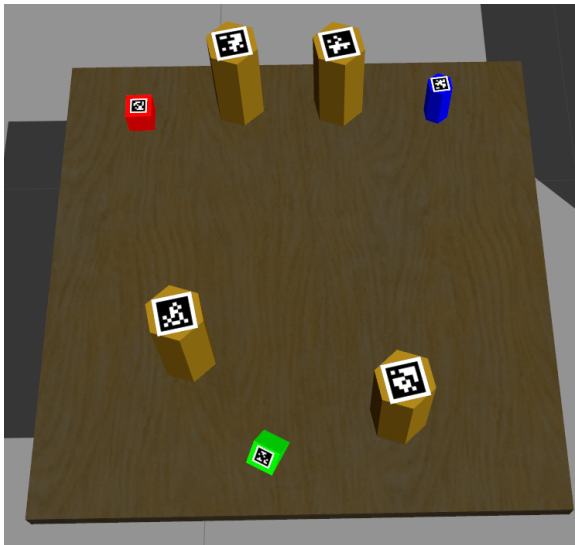
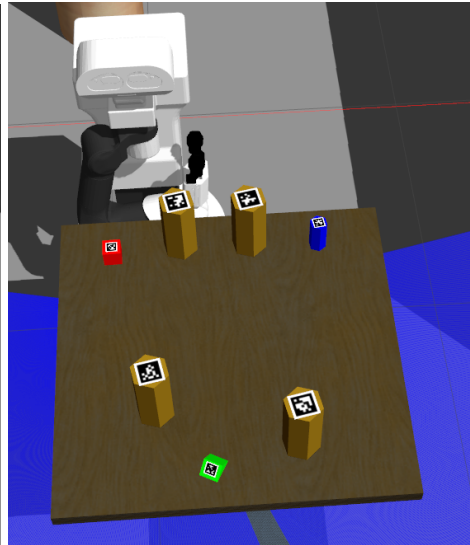
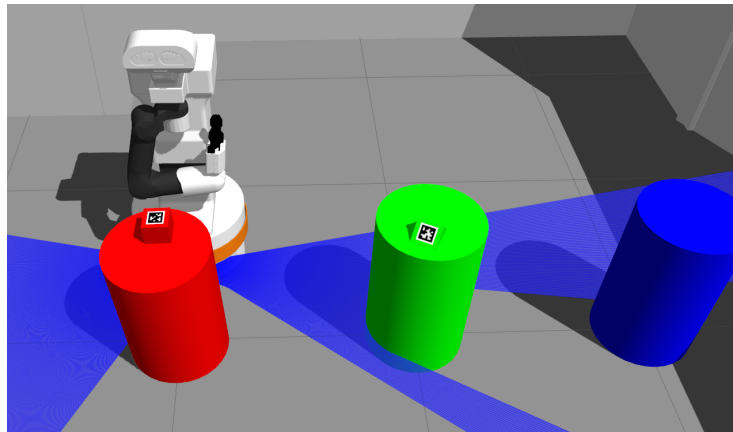

Figure 1
Figure 2
Figure 3
In the simulated environment there are 7 objects on a pick-up table: A red cube, a green triangle and a blue hexagon, plus 4 gold hexagons (Figure 1 and Figure 2). The gold hexagons are obstacles, and Tiago must not collide with them (or with the table) while grasping the required objects. Once an object is grasped it must be fetched and placed on the cylindrical table of the same colour (see Figure 3).
The pose of the objects on the pick-up table can be obtained by exploiting the Tiago's camera and the AprilTag library thanks to the markers placed on the top of these objects. The AprilTag library identifies the markers through the IDs encoded in the QR codes. Each marker has a specific identifier. Finally, the shape of every object is known (see Figure 1).
You have to develop a routine, exploiting the MoveIt! library, to pick and place each object (according to the received sequence) from the pick-up table (Figure 1 and 2) to its final destination in accordance with its colour (i.e., the red cube on the red cylinder table) (Figure 3).
1. Navigate in front of the table with the navigation stack (Figure 2). The position in front of the table is up to you.
13. Navigate to the correct destination (Figure 3). You can decide the final pose of the robot in front of the cylindrical table and use the navigation module to navigate to that point.